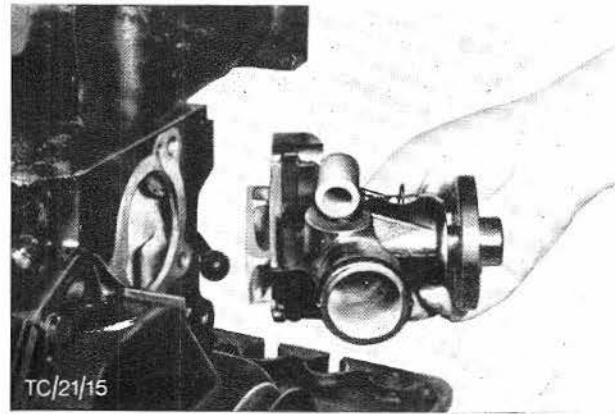
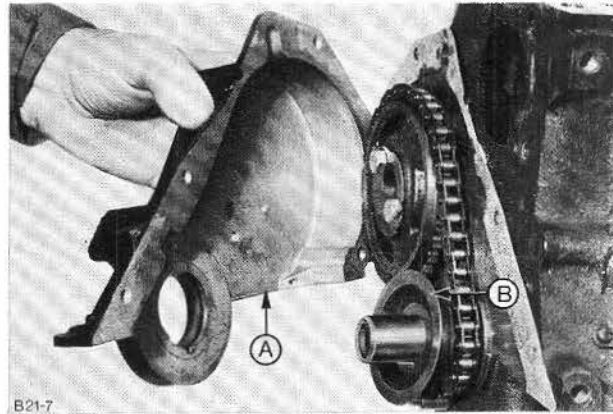

Fig. 26. Remove water pump.
Fig. 27. Timing cover and oil slinger.
19. Remove water pump (3 bolts), Fig. 26. Detach timing cover (4 bolts) and remove oil slinger from crankshaft, Fig. 27.